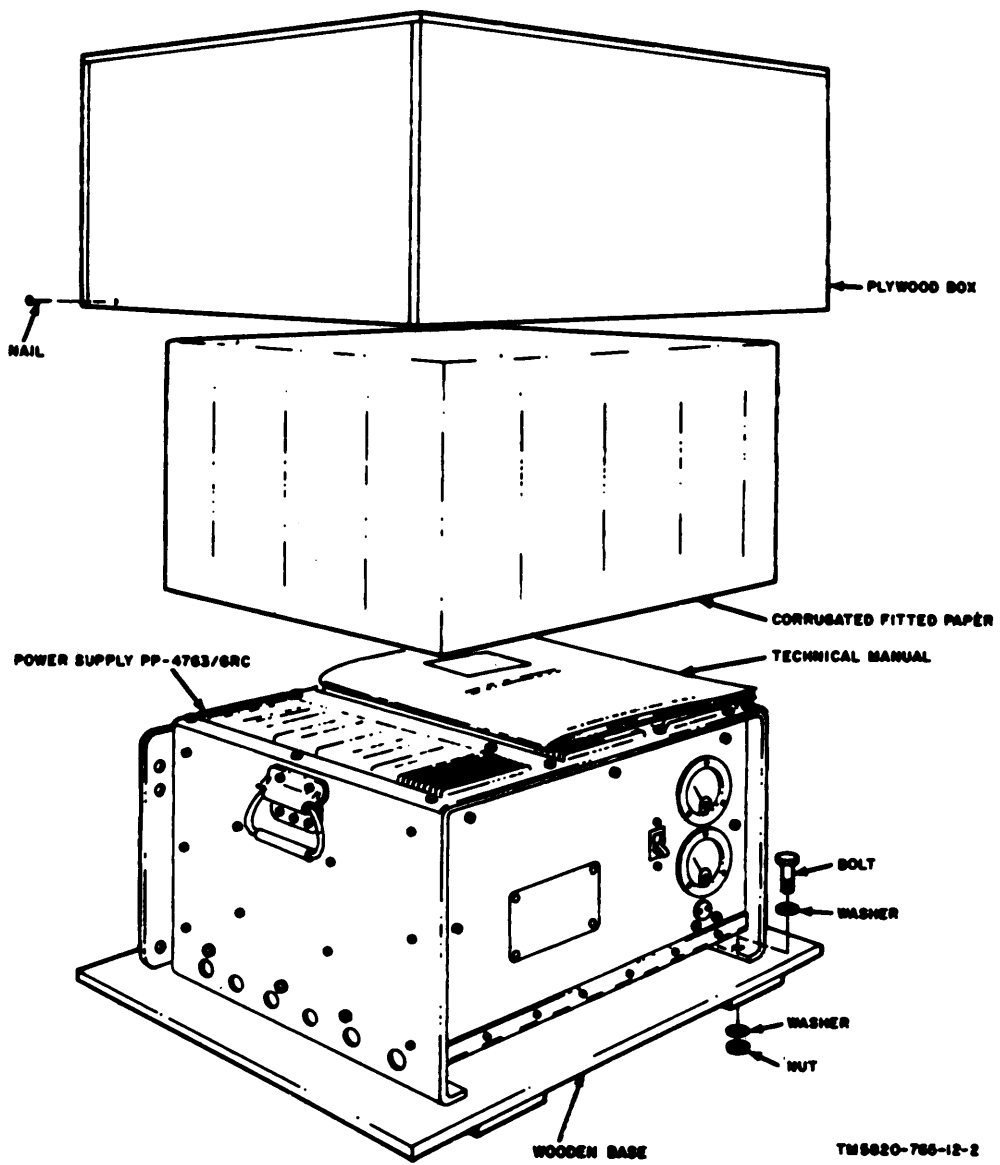

Figure 2-1. Typical packaging.
*a. Packaging Data.* When packed for shipment, Power Supply PP-4763/GRC is packed in a 24¾ by 21¾ -by 17¼ -inch wooden box. The volume is 5.4 cubic feet, and the total shipping weight is 193 pounds. The PP-4763A/GRC is packed in a 24¾ -by 22¼ -by 17¼ -inch box. The volume is 5.5 cubic feet, and the total shipping weight is 200 pounds. A typical wooden box and its contents are shown in figure 2-1.
(1) Remove the nails that secure the plywood box to the wooden base. Lift the box free of the unit and the base.
(2) Remove the bolts that fasten the power supply to the base.
(3) Lift the power supply clear of the base.
(4) Remove the fitted corrugated wrapping paper from the power supply.